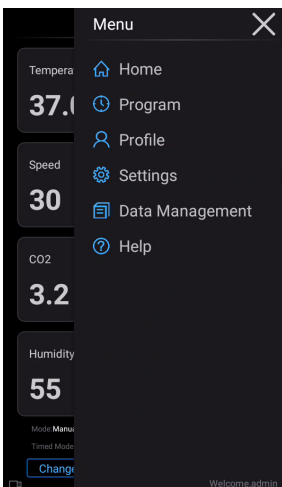

Figure 3
2. Click to expand the drawer, as shown in the figure 3.
NOTE: Click on Data Management button in Main Menu interface, as shown in figure 3.